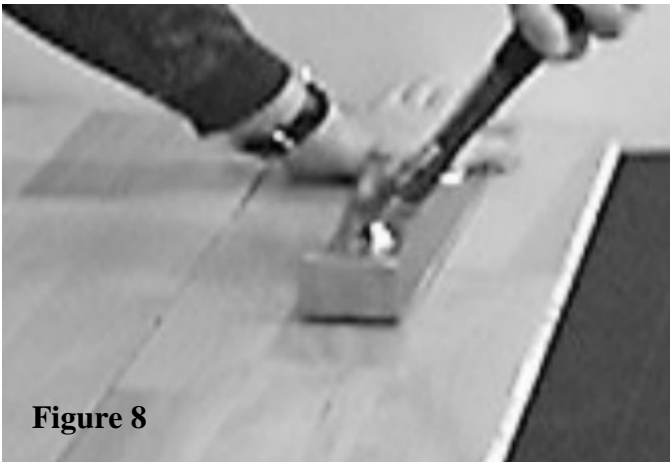

Figure 8
- Use the pull bar to tighten the seam along the last row. (Figure 8)